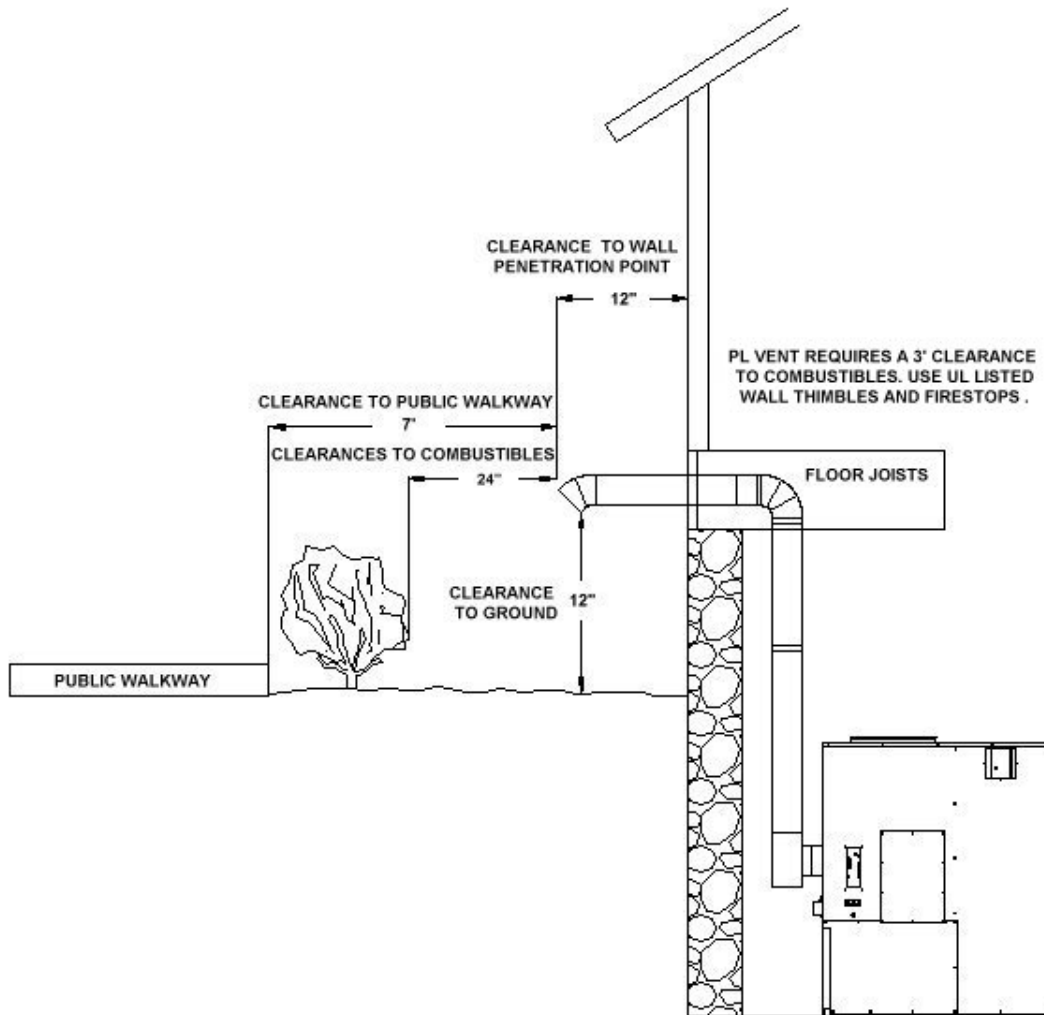

Figure 5
2. It is not recommended to run vertical venting outside the heated environment where the furnace is installed. Running a venting system in a cold environment may cause the flue temperatures to cool down too much for adequate drafting. See figures 5 & 6 on pages 13 & 14.